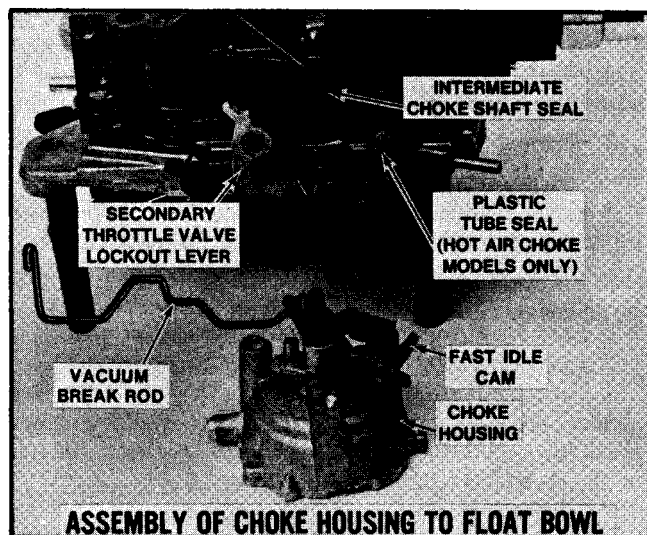

Figure 63 Assembly of Choke Housing to Float Bowl
2. Install secondary throttle valve lockout lever (if used) on boss on float bowl with recess in hole in lever facing inward (Figure 63).